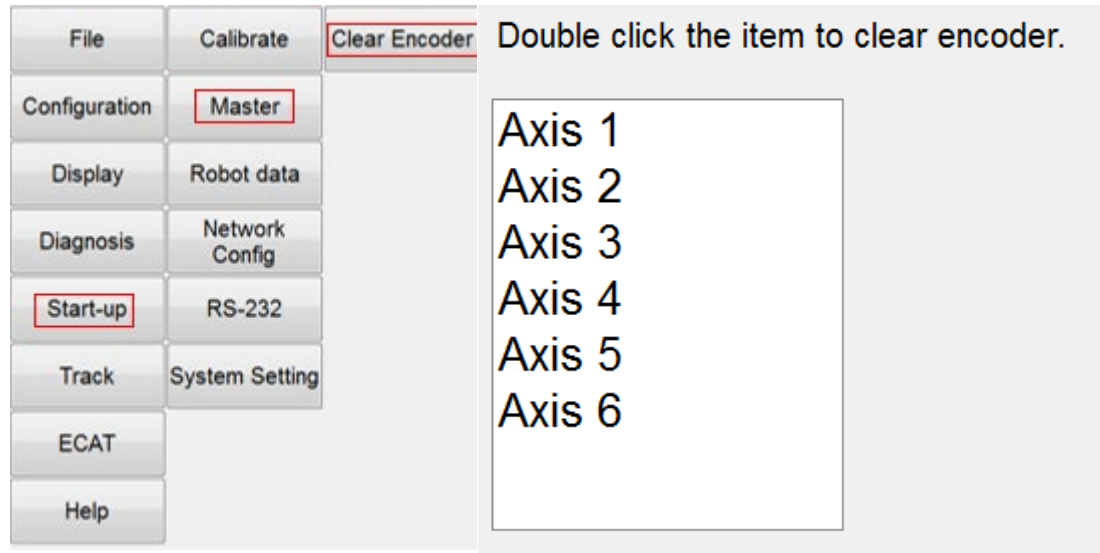

Figure 4-8 Clear encoder by HRSS
(As shown in Figure 4-8)
Step4. Double click the axis to clear encoder. (As shown in Figure 4-8)